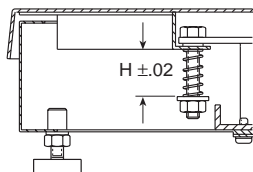

Figure 2. Overload spring height adjustment
8. Use an accurate caliper to check compressed spring length of the four overload springs as shown in Figure 2. If necessary, adjust length to specifications in Table 2. Replace top cover and re-level scale.